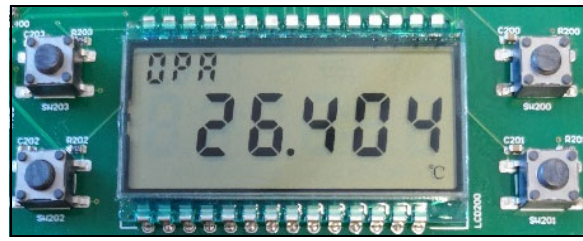

FIGURE 17: LCD Menu - Temperature.
- the temperature (Figure 17),